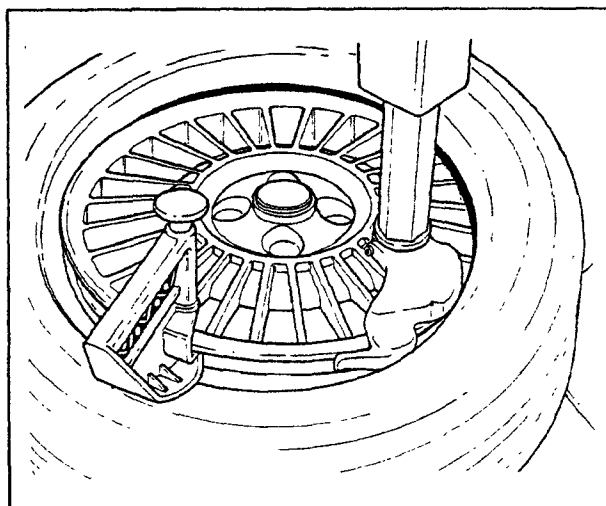

Fig.18
C. Mount the upper bead following the directions in section B. With low profile tires the bead depressor tool (option #4003444 Fig.18) can help to ease the mounting of the top bead.